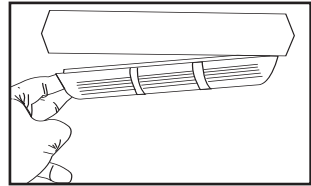

fig. 3
**Replacing the Light Bulb** (fig. 3)
(see fig. 3)